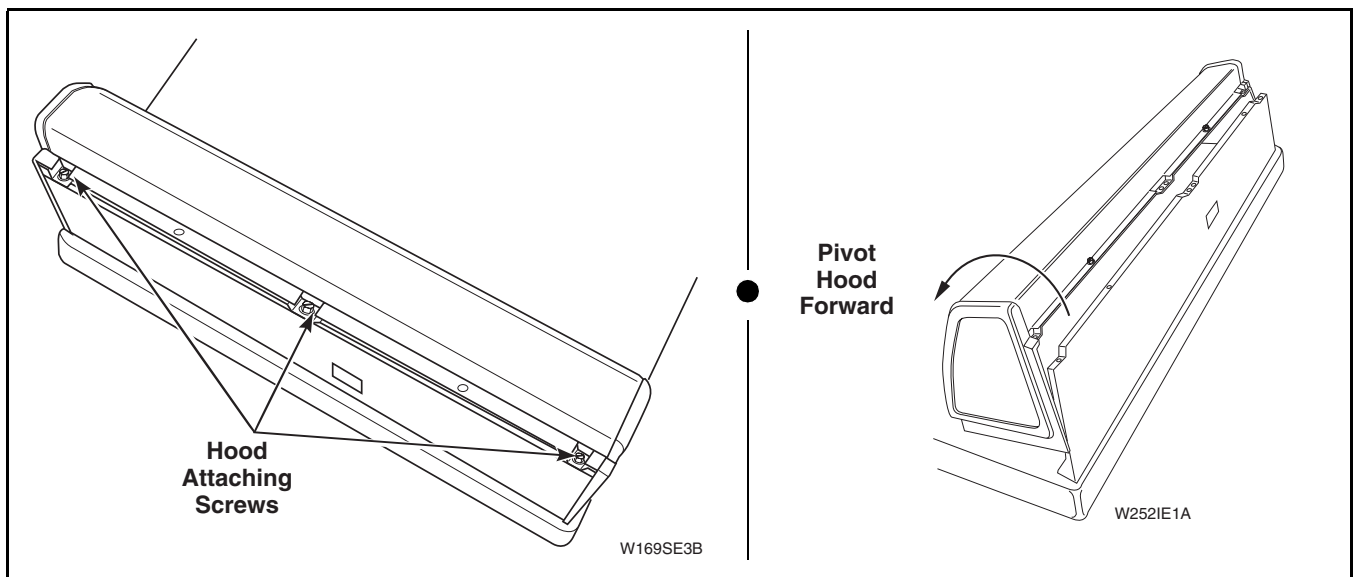

Figure 6
- Remove three screws holding rear of hood assembly to control hood rear panel. Refer to *Figure 6*.
- Pivot hood assembly forward on cabinet top. Refer to *Figure 6*.
- b. Remove three screws holding rear of hood assembly to control hood rear panel. Refer to *Figure 6*.
- c. Pivot hood assembly forward on cabinet top. Refer to *Figure 6*.
- a. Remove three screws holding rear of hood assembly to control hood rear panel. Refer to *Figure 6*.
- b. Pivot hood assembly forward on cabinet top. Refer to *Figure 6*.